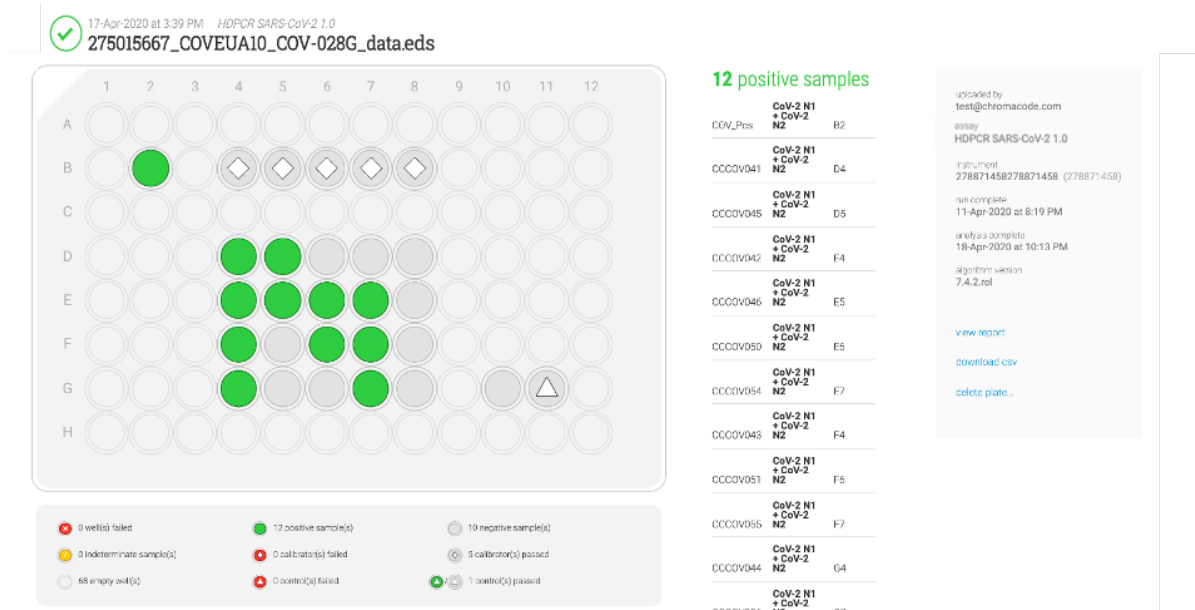
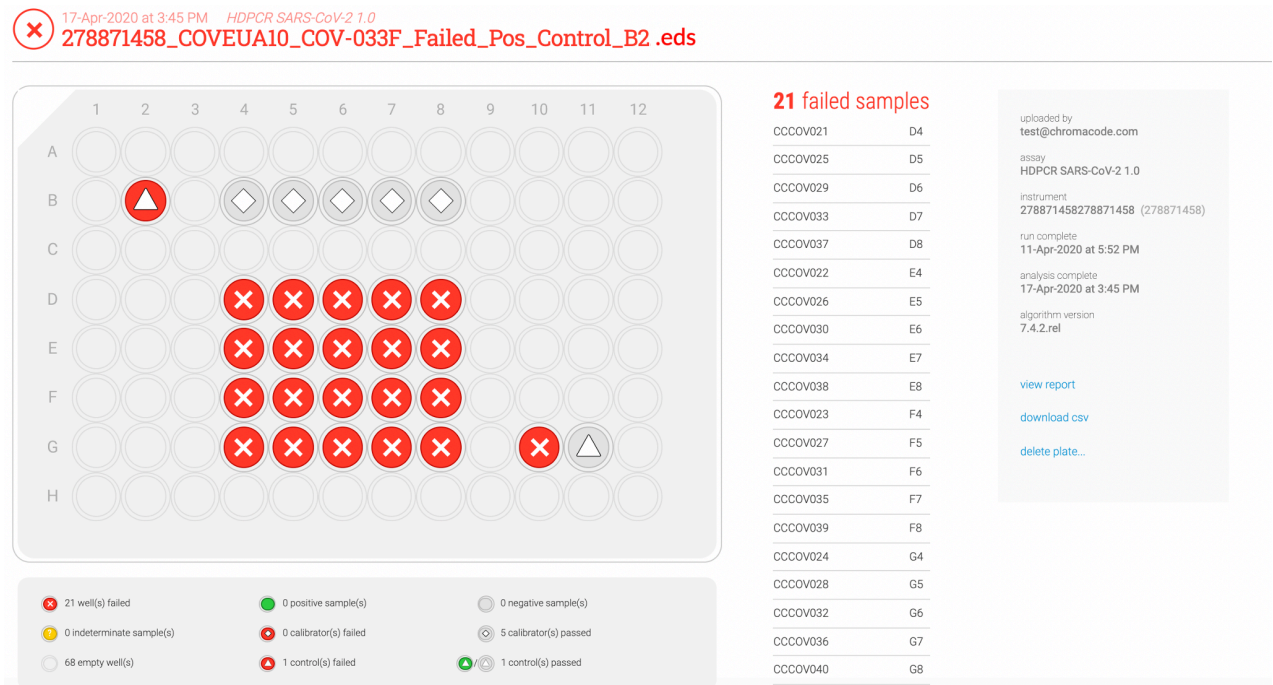

Figure 1 Plate Passing ChromaCode Cloud QC
Figure 2 Plate Summary Page with Failing Plate QC
The ChromaCode Cloud automatically assesses the plate QC status. This information is provided in a Plate Summary view and a Well Details page on the ChromaCode Cloud. Additionally, this information is consolidated in an exportable portable document format (pdf) report. The report can be downloaded from the Plate Summary page by clicking **view report** (seen in Figure 1).
HDPCR SARS-CoV-2 calibrators must be run and pass quality control checks on every plate run. If these calibrators do not pass quality control checks, the plate run will be automatically flagged as failed on the ChromaCode Cloud by a red X next to the run name, which will be written in red text (an example of a failed plate in Figure 2). A plate that has passed plate QC will have a green check and the run name will be written in green text (Figure 1).
ChromaCode Cloud automatically assesses the amplification and detection of the N1 and N2 targets and the RNase P (IC) internal control status for each sample. This information is provided in a Plate Summary view (Figure 1) and a Well Details page. Additionally, this information is consolidated in an exportable report.